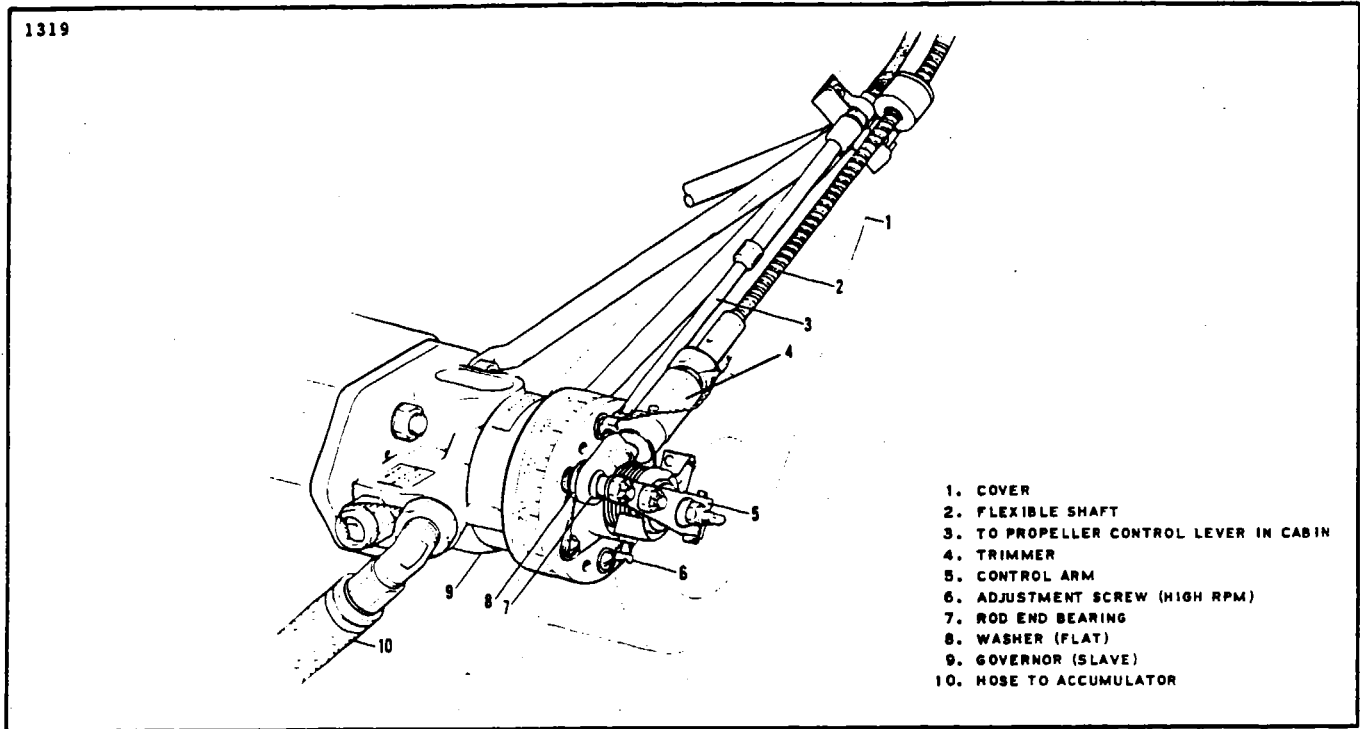

Figure 14-35. Trimmer Assembly
14-105. REMOVAL OF TRIMMER ASSEMBLY. (Refer to Figure 14-35.)
- h. With the trimmer assembly and actuator motor at these centered positions connect the flexible shaft to the trimmer and secure with nut and safety wire as shown in Figure 14-35.